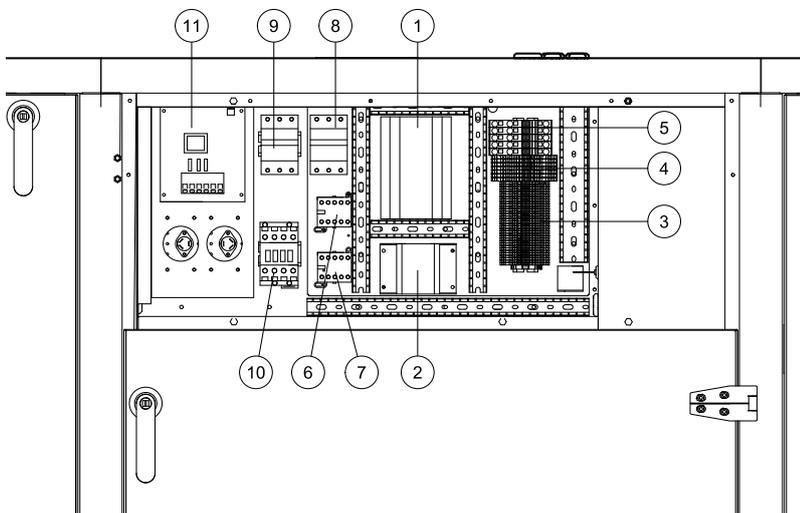
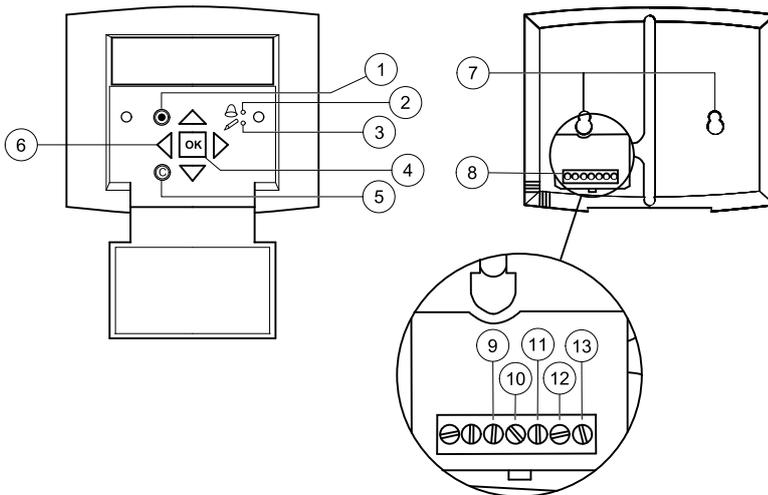

Fig. 3 Electric components
Fig. 4 The control panel
Topvex SC03-11 are equipped with a built in regulator and internal wiring (figure 3).
The SCP control panel is delivered with a 10 m cable that is connected to the panel and with a fast coupling contact, connected to the Topvex unit. The contact is connected to the **Corrigo** controller in the electrical connection box (pos. 1, figure 3). The cable can be unscrewed in the back of the control panel (figure 4).